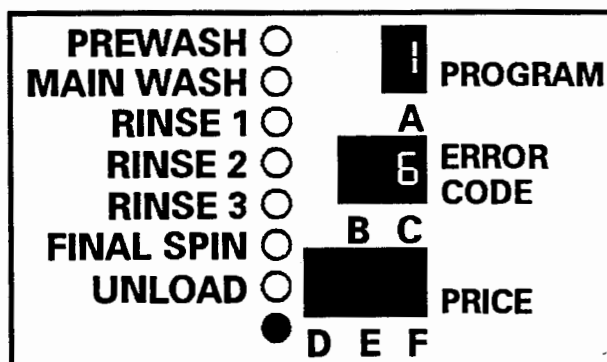

Figure 3-5
The control board reports faults by means of an LED lighting up an fault code in display (C). (See Figure 3-5) This code can be any number between 1 and 8: each number stands for a particular type of fault (See Table 3-5).